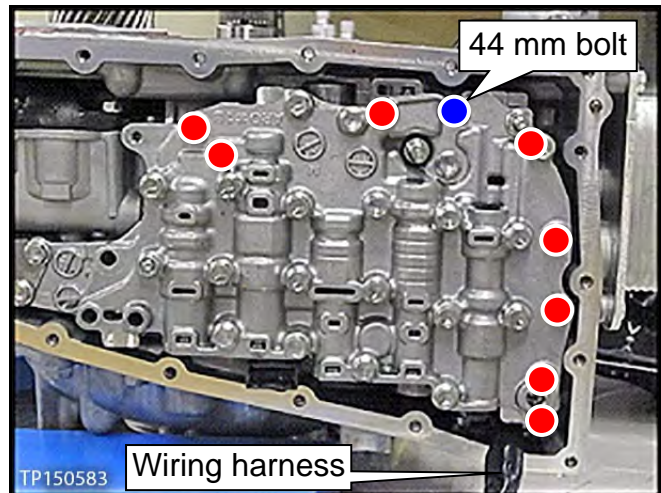

Figure 83
2. Move the wiring harness out of the way (see Figure 83).
3. Carefully put the new valve body in place, and then secure with its nine (9) mounting bolts (see Figure 83).